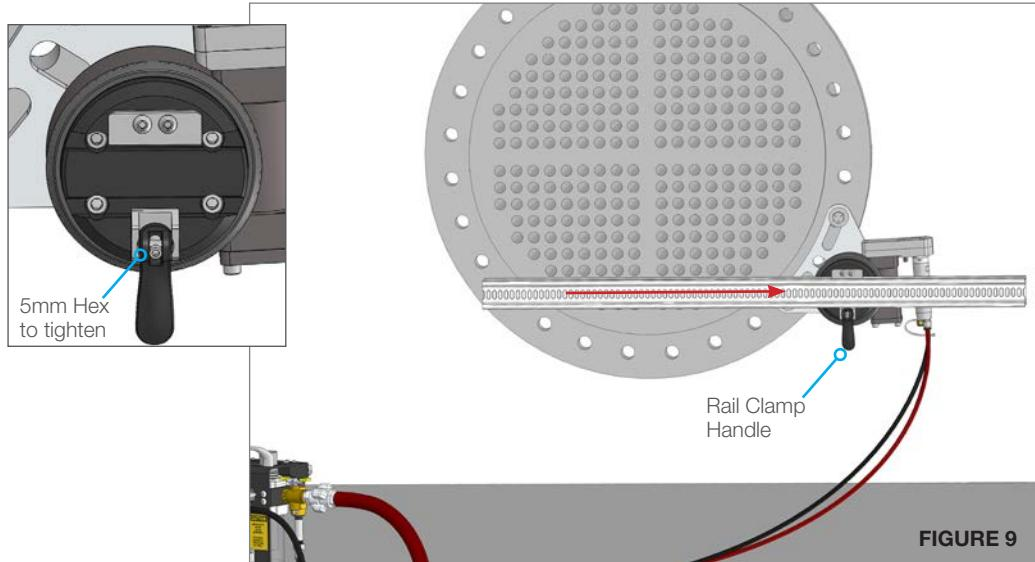

FIGURE 9
12. Open the Rail Clamp Handle on the Rotary Drive. Slide the Slotted Rail (slots facing out) into the clamp on the Rotary Drive face. Push the Rail Clamp Handle on the Rotary Drive to secure in place. **(Figure 9)**